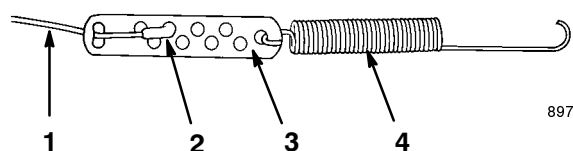

Figure 4
2. Hook the spring to the round hole at the end of the cable adjuster (Fig. 4).
3. Secure the end of the cable to the cable adjuster as illustrated in Figure 4.